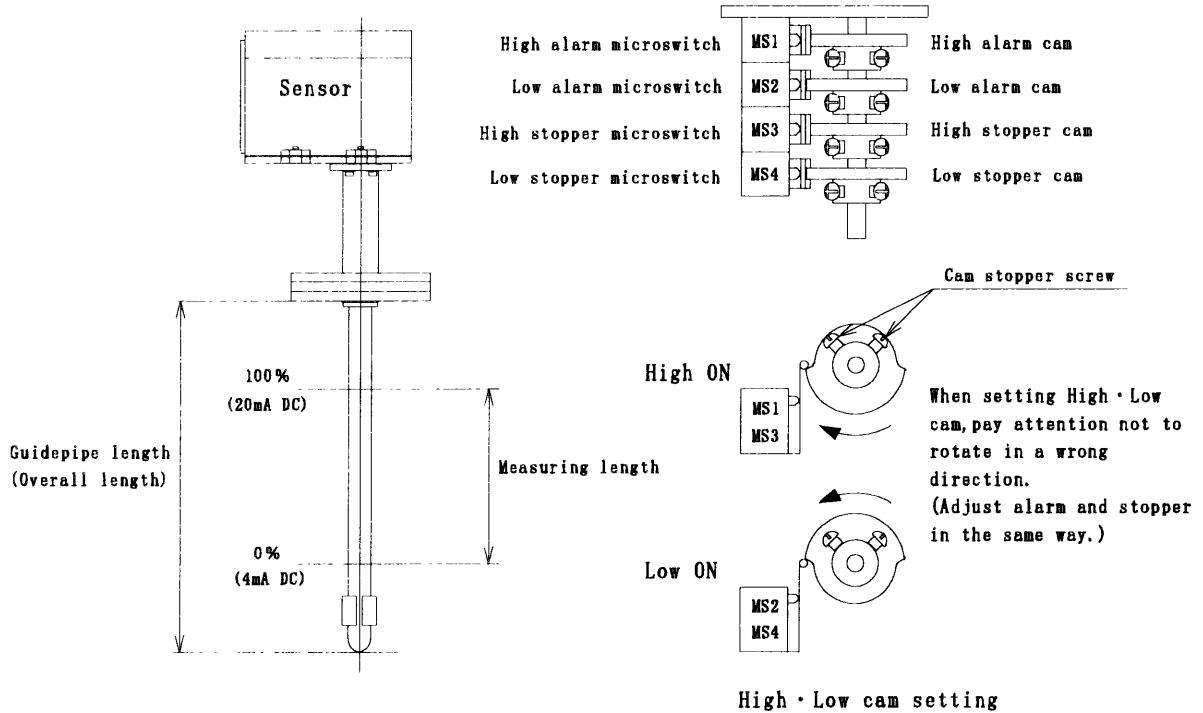

Fig.9-3
- (3) Low stopper cam setting. (Refer to P.21, Fig.9-3)
- (4) Output Zero adjustment
- (5) High stopper cam setting (Refer to P.21, Fig.9-3)
- (6) Output Span adjustment
If using an alarm output, set as in the case of 9.4, Setting of the High · Low stopper cam. (Refer to Fig.9-3)